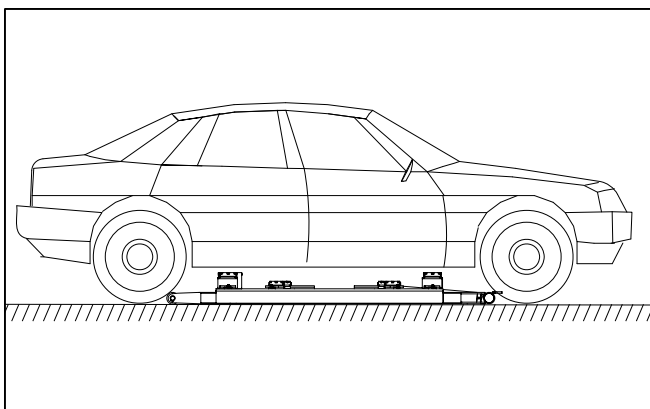

Fig. 4
- Make sure the vehicle is positioned correctly. **(Fig. 4)**